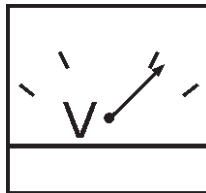

Figure 45. AC Voltmeter
11. The generator's voltage meter (Figure 45) displays the 120 VAC in **VOLTS**. If the voltage is not within the specified frequency tolerance,